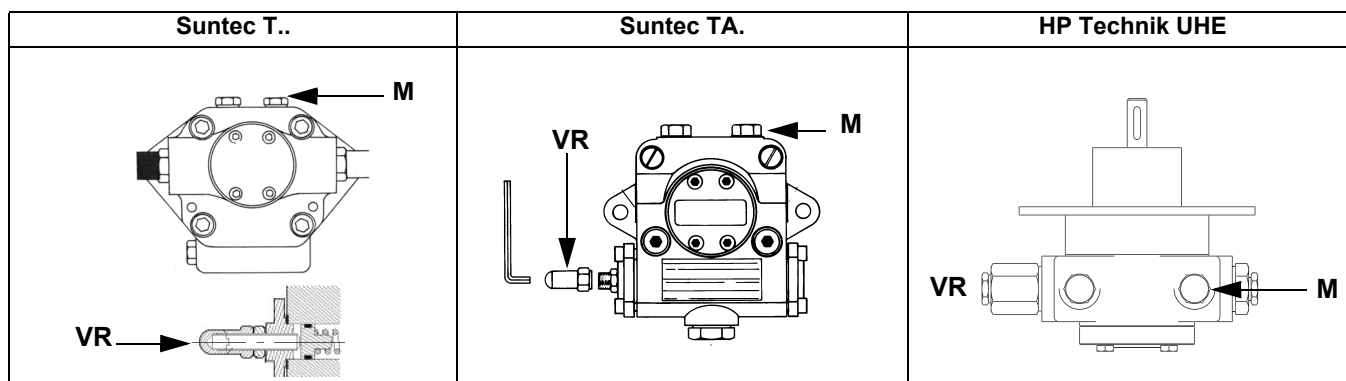
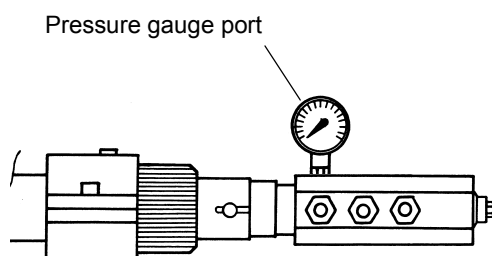

Fig. 11
Fig. 12
The position of the indicator in the dial indicates the value of the outlet pressure calculated as a percentage of the full scale of the PS sensor (Fig. 11)
- 3 bleed the air from the **M** pressure gauge port (Fig. 11) by loosening the cap without removing it, then release the contactor.
- 5 Only if necessary, adjust the supply pressure as follows (see related paragraph); insert a pressure gauge into the port shown on Fig. 12 and act on on the pump adjusting screw **VR** (see Fig. 11) as to get the nozzle pressure at 20bar (Monarch or Fluidics nozzles - see page 38-38).